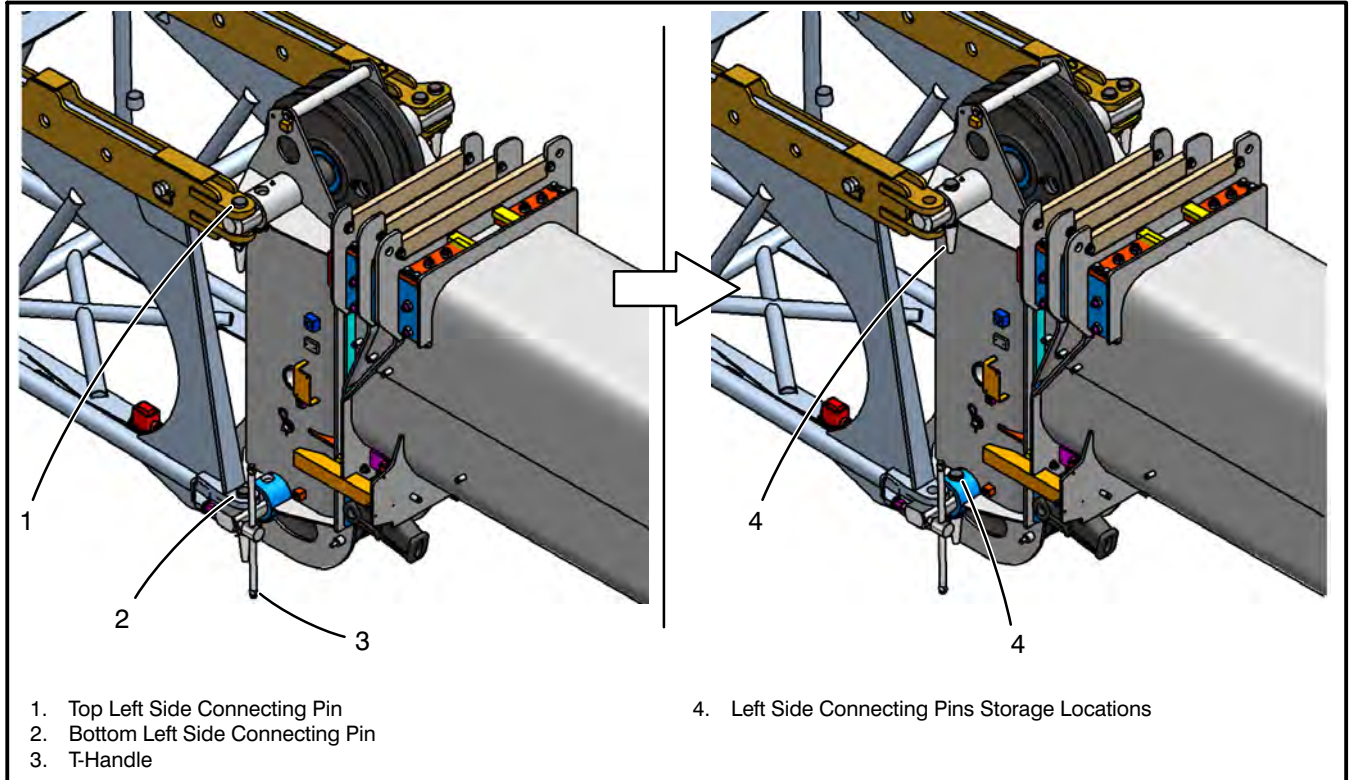

Figure 4-111
12. Remove the bottom left fly base connecting pin on the left side of the fly using the t-handle to assist in relieving the load on the pin. Refer to Figure 4-111. Back off the t-handle until at least a 1/2 in (1.3cm) clearance from the fly lug is obtained. Remove the top left fly base connecting pin. Store connecting pins in the storage holes on the boom head machinery cross shafts on the left side of the boom.